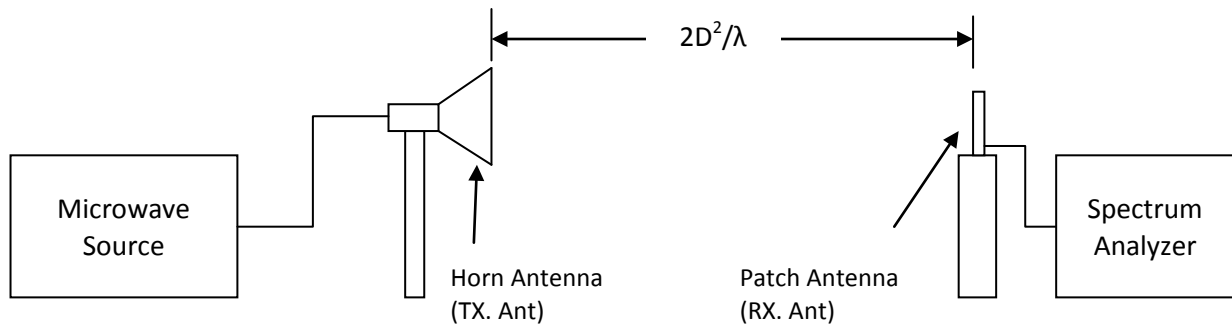

Fig. 1. Antenna radiation pattern measurement set up.
1. Experimental set up is made as shown in Fig 1. Microwave source is connected to the transmitting antenna (Horn Antenna). The antenna under test (patch antenna) is used as a receiving antenna and fixed to the stand whose rotation can be controlled by stepper motor controller. The distance between the horn antenna and patch antenna is kept as $2D^2/\lambda$, where maximum overall dimension of the antenna is D , and λ is the operating wavelength. The patch antenna and horn antenna are placed in line of sight aligned to each other. The receiving antenna is connected to spectrum analyzer (SA) to measure the received power.
10. The directivity (D) of antenna can be find by $D = \frac{4\pi}{(HPBW)_E \times (HPBW)_H}$.